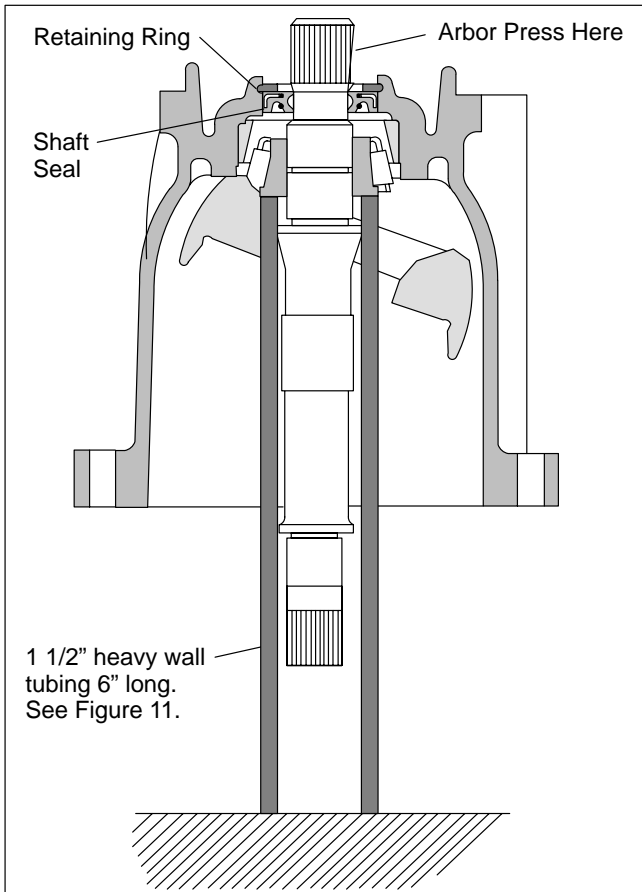
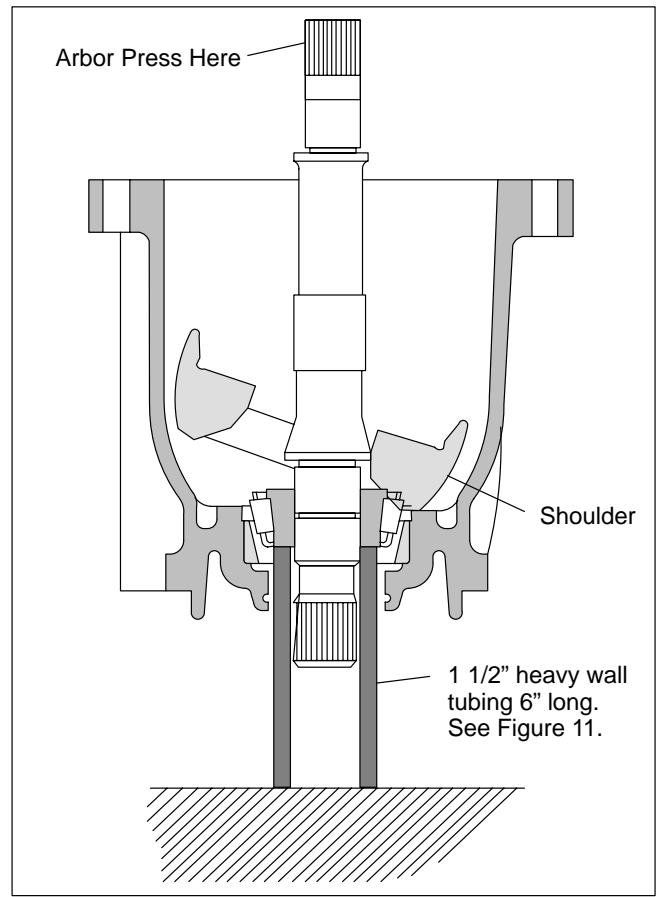

Figure 17. Front Bearing Removal.
Figure 18. Front Bearing Installation.
20. Remove and replace shaft seal (42) located within housing (27) as follows: (Refer to figure 17.)
a. Install a nine inch piece of 1 1/2" heavy wall tubing over drive shaft (48) within the housing. The end of the tubing will rest against the inner race of tapered roller bearing (61) and extend out beyond the end of the pump housing. Place the complete unit with tubing into an arbor press with drive spline up. Press the drive shaft through the bearing and out of the unit. A 0.001 press exists between the shaft and bearing so considerable force is required to remove the bearing. See Figure 17 (PVE19/21).
b. Remove retaining ring (44) and pull shaft seal (45) from housing (27). Be careful not to damage the aluminum die cast housing in the seal area.
c. Press drive shaft (48) into shaft bearing (61) as follows: Use a short piece of 1 1/2" inch heavy wall tubing (approximately 6" long) over the drive spline of the shaft. The tubing must be long enough to go through the shaft seal end of the pump and make contact with the inner race of the front bearing. Press the shaft through the bearing with an arbor press until the bearing bottoms against the shoulder of the shaft (snap ring on the PVE12). See Figure 18.
d. Remove the short piece of tubing and turn shaft bearing (69) in its race with the end of the shaft. The bearing rollers must turn free and smooth.